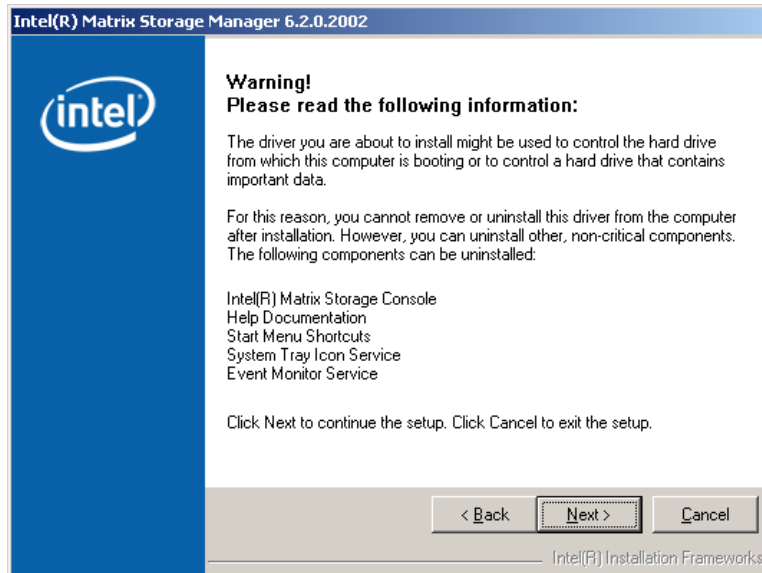

Figure 7-38: Matrix Storage Manager Warning Screen
Step 8: Click **NEXT** and a warning appears (Figure 7-38). Read the warning carefully and decide whether or not to continue the installation process.